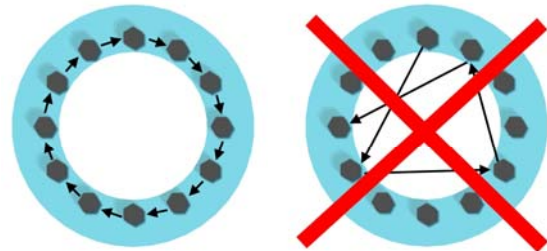

FIGURE 10. Tightening order of shrink disc screws.
6. Tighten all the clamping screws evenly in a circle, as shown in Figure 10.